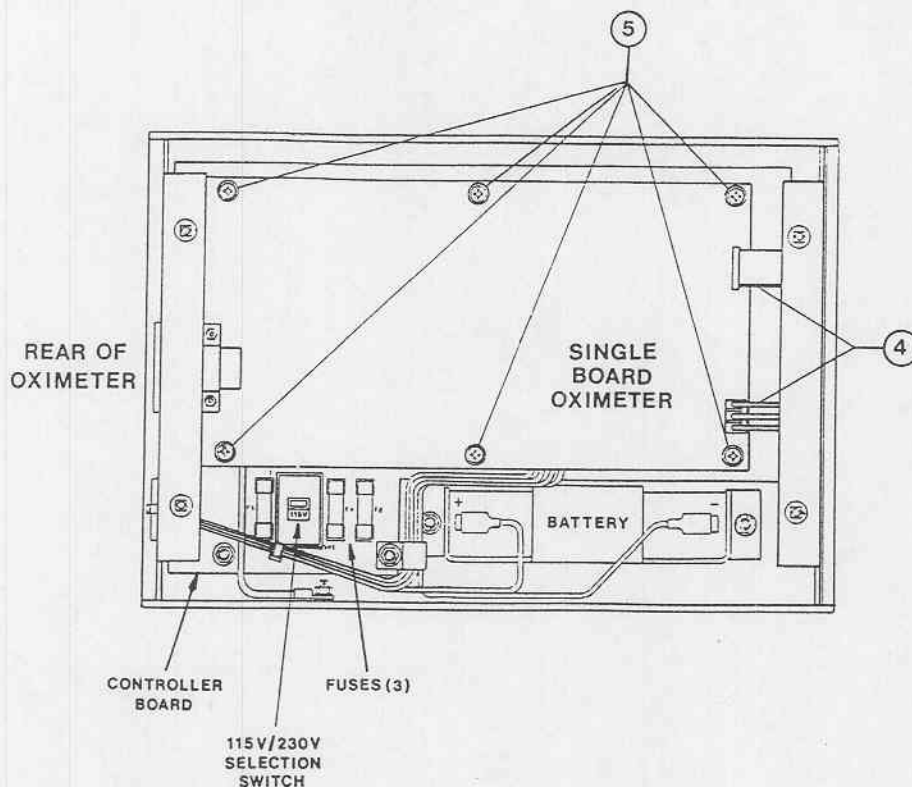

Figure 11. Remove the Single Board Oximeter.
4. Refer to Figure 11. Remove the two cables connected to H1 and H2 on the Single Board Oximeter.
5. Refer to Figure 11. Remove the six (#2 phillips head) screws and nylon washers that secure the Single Board Oximeter to the nylon standoffs. Lift the Single board Oximeter from the unit.